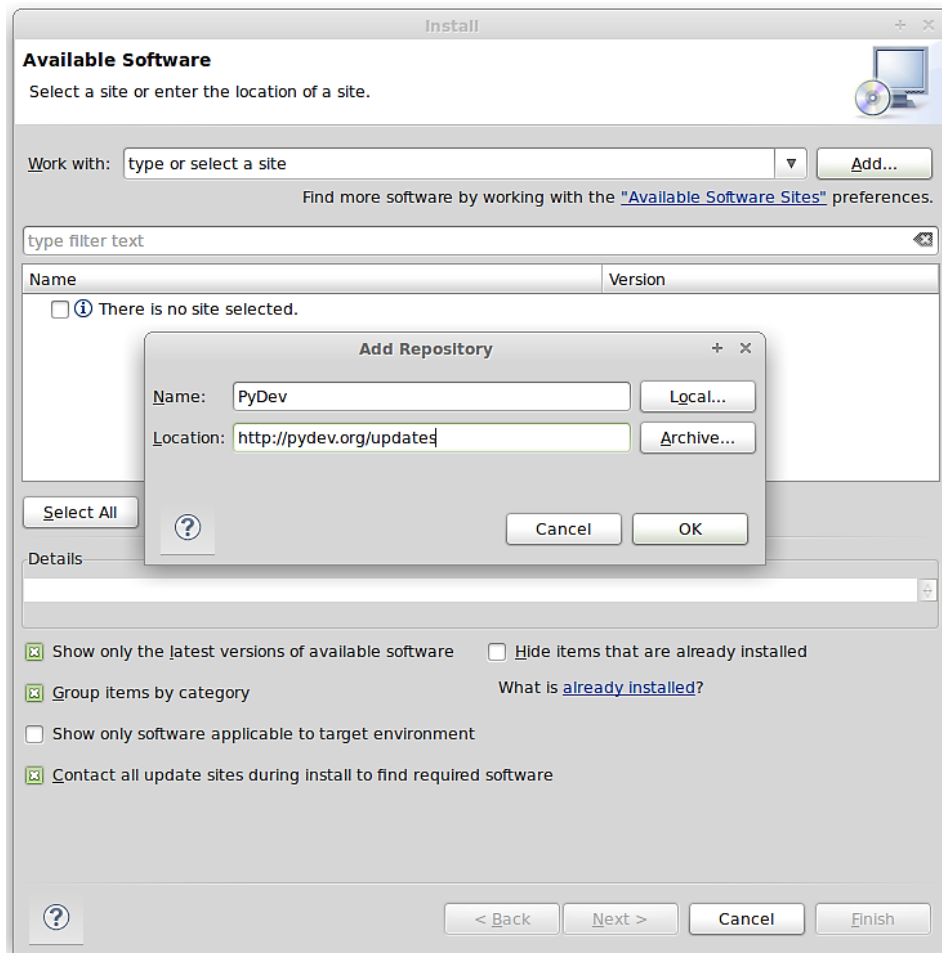

Figure 6: Installing PyDev Plug-in for Eclipse (continued)
- As shown in Figure 6, enter the following: